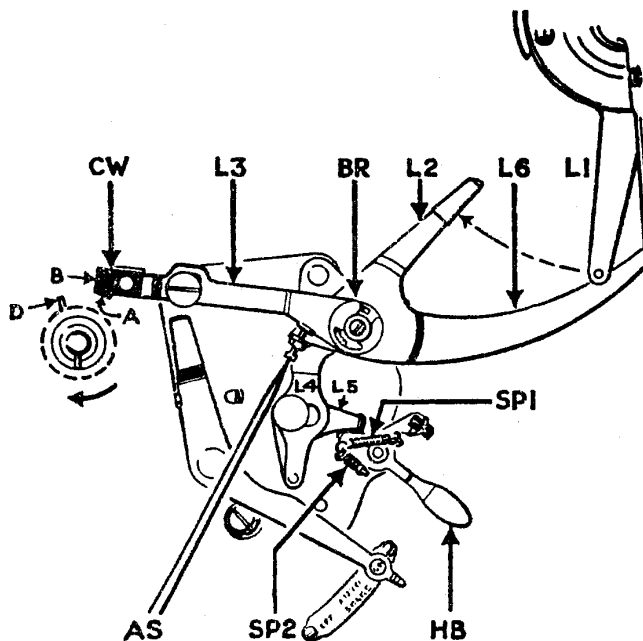

Fig. 8.—Note the correct position of tone arm lever (L 1) in the fork of lever L 2.
The auto brake lever must be set to the "OFF" position and the motor stopped by the handbrake H.B. (Fig. 8).
To set screw refer to Fig. 8 and proceed as follows :
2. With the pick-up on the rest, as shown in Fig. 8, adjust screw AS so that there is just a little clearance (about $\frac{1}{16}$ -inch) between lever L 6 and the pin on lever L 1.